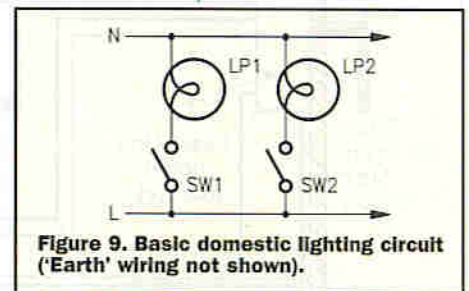
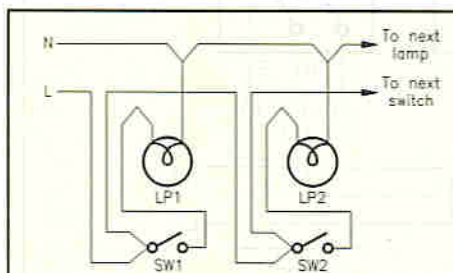

Figure 9. Basic domestic lighting circuit ('Earth' wiring not shown).
Figure 10. Old-style implementation of the lighting circuit (Earth wiring not shown), with three wires (plus Earth) running down to each switch.
The basic AC lighting circuit of a domestic system is deceptively simple, as shown in Figure 9. Note in particular, that the light switch is used to connect the lamp to the live (L) side of the supply, thereby ensuring that an electric shock cannot be received from the lamp (when changing a bulb) when
The physical implementation of the Figure 9 circuit is not simple. Figure 10 shows the old-style (pre-1947) method of implementation, in which Neutral (N) goes to one side of each lamp and the Live line is looped from one switch to the next. Note that this method requires three wires plus Earth (E) to be run down to each switch. In practice, the old-style wiremen often ignored the 'polarity' rules and switched the Neutral line, so that the lamp socket remained permanently (and dangerously) 'live'.